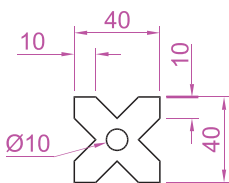

Fig. 5.15 First example – Array – drawing to be arrayed
1. Construct the drawing as shown in Fig. 5.15.